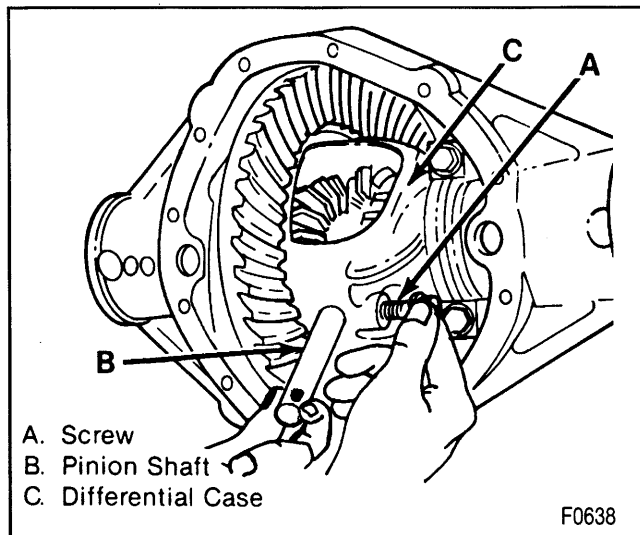

Figure 7—Removing/installing the Pinion Shaft
- A. Keep the pinion shaft partially withdrawn (figure 7).